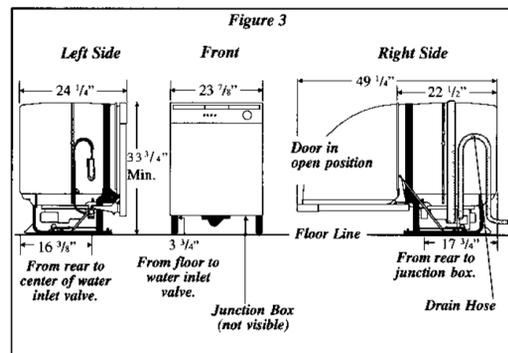

Figure 3
1. Review dimensions in Figure 3 to locate dishwasher's drain, water, and electrical connections.
2. Note the locations of electrical supply and dishwasher's electrical junction box on right underside of unit behind kickplate assembly. See Figure 3.
1. Determine where you will connect to hot water supply. Review Figure 3 and note the location of water inlet valve.